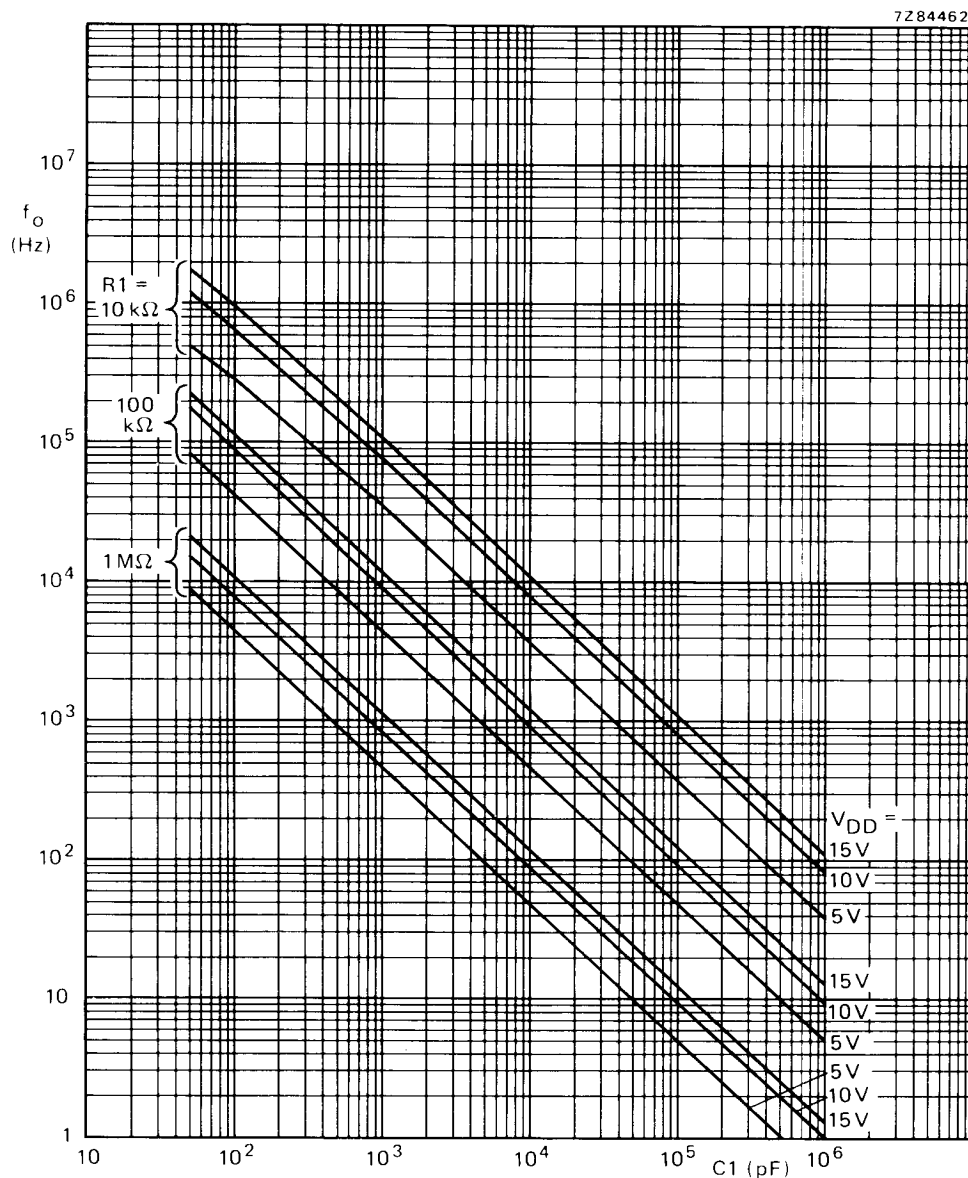

Fig. 7 Typical centre frequency as a function of capacitor C_1 ; $T_{amb} = 25^\circ\text{C}$; V_{COIN} at $\frac{1}{2} V_{DD}$; INH at V_{SS} ; $R_2 = \infty$.
- Given f_O : use f_O with Fig. 7 to determine R1 and C1.
- Given f_{max} : calculate f_O from $f_O = \frac{1}{2} f_{max}$; use f_O with Fig. 7 to determine R1 and C1.